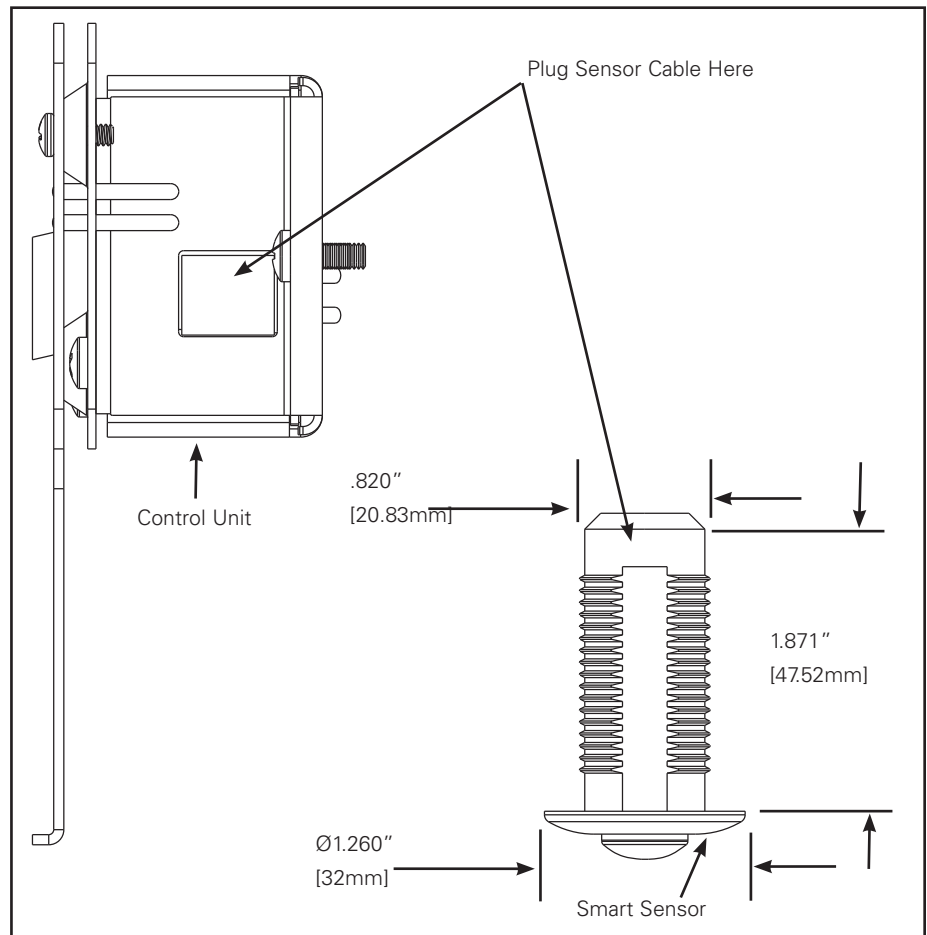

Figure 2.
3. Connect sensor cable to control unit. Connect other end to ceiling mounted sensor. (See Figure 2).